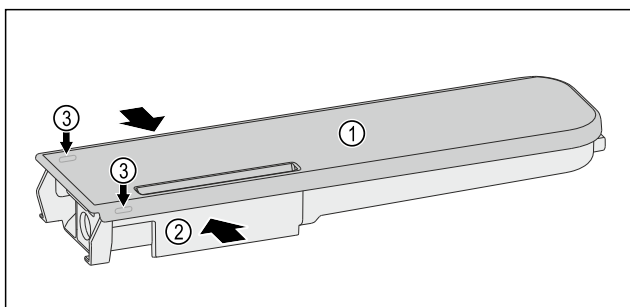

Fig. 141
- ▶ Push the water tanks Fig. 141 (2) together, leverage the cover Fig. 141 (1) carefully over the latching tabs Fig. 141 (3) and lift it up.
- ▶ Move the cover Fig. 141 (1) slightly forwards and back, and remove to the top.